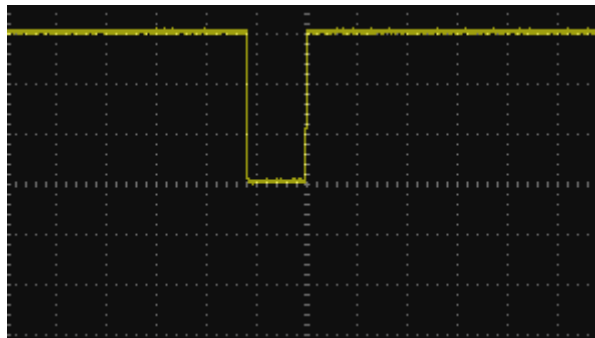

Figure 7 Pulse Waveform
5. Move the waveform on the screen up, down, or sideways so that any portion of it falls outside of the Pass/Fail mask. If the interface is operating normally then a pulse will appear on the second oscilloscope (Figure 7). Adjust the second oscilloscope's time base and voltage scale as needed. If there is no viewable pulse on the second oscilloscope then there may be a problem with this function.